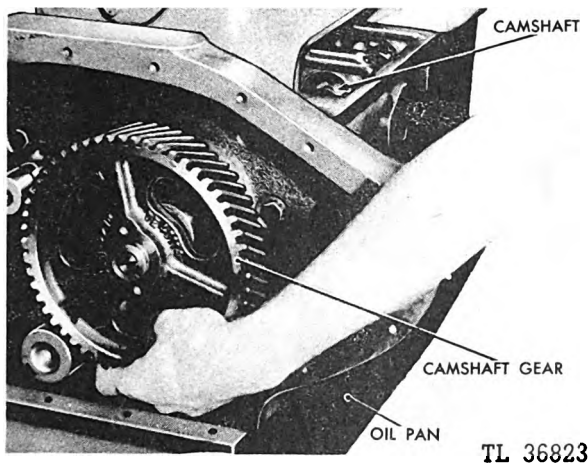
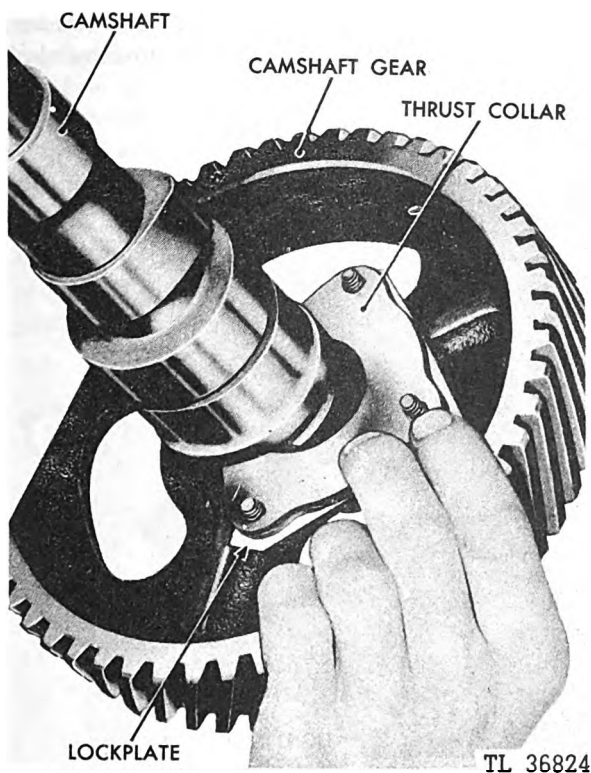
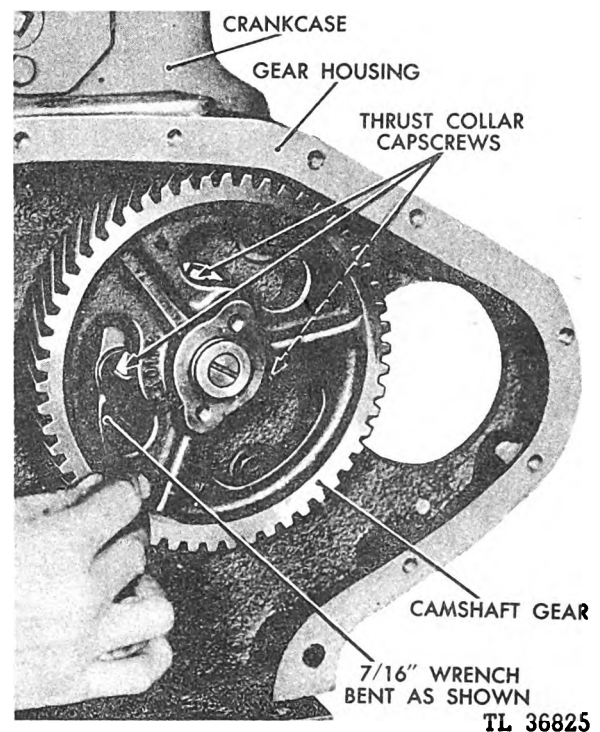
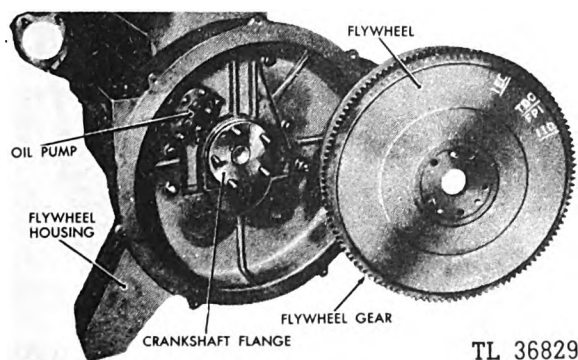

Fig. 171. Installing Camshaft
Fig. 172. Installing Thrust Collar on Camshaft
Fig. 173. Tightening Cam Lock Plate
Fig. 177. Flywheel and Flywheel Housing
(See Figure 171.) Before meshing the camshaft gear and the crankshaft gear, align the marks on the two gears, as shown in Figure 131, and insert the camshaft thrust collar with lock plate and capscrews onto the camshaft. (See Figure 172.) The desired clearance between the thrust collar and camshaft should be .003 inch to .009 inch; permissible .015 inch. (See Figure 94.) Push the camshaft into position. Tighten the three capscrews with a  $\frac{7}{16}$ -inch wrench, bent close to the head of the wrench. (See Figure 173.)
**p. Installing Flywheel and Stub Shaft.** (1) Before installing the flywheel, make certain that all the dirt has been removed from the crankshaft flange and the crankshaft recess in the flywheel. Feel the surfaces for burrs and nicks. (See Figure 177.) Because of an offset bolt, the flywheel goes on in only one position. Turn the crankshaft so that No. 1 and No. 6 pistons are on top dead center. Turn the flywheel so that the T. D. C. mark on the flywheel lines up with inspection hole in flywheel housing. (See Figure 171.) Slip the flywheel onto the crankshaft bolts.
(2) Rotate the stub shaft until the holes in the shaft flange line up with the flywheel bolts. Push the stub shaft onto the flywheel bolts. Install the special thin lockwashers and retain-